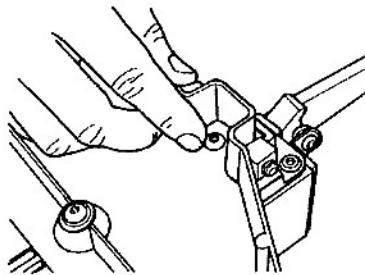

Fig. A-49
57. Re-install the capscrews and washers removed in Step 54, then finger tighten. See Figs. A-49 and A-50.